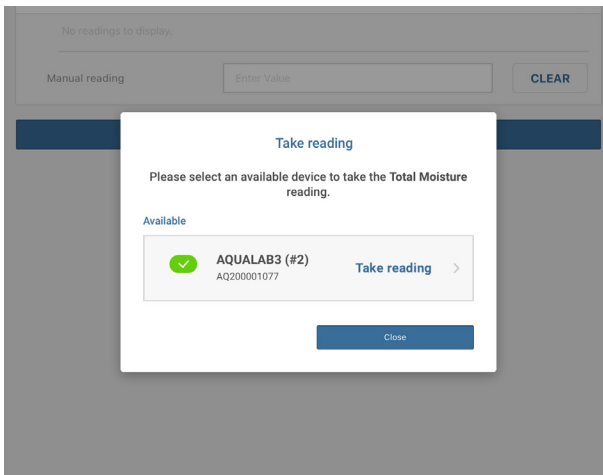

Figure 50 Take reading popup window
7. Select Take reading to the right of the device name shown in the Take reading popup window (Figure 50).